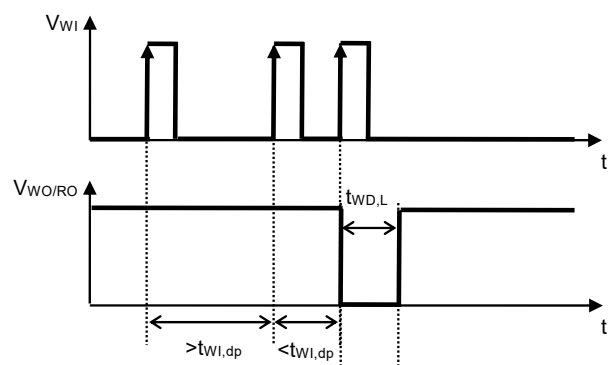

Figure 9 Watchdog Double-pulse Detection Time
*3. The time from when the watchdog timer initiates the detection of a trigger signal to when a trigger is detected again before $t_{WI,dp}$ elapses and the WO / RO pin output changes to "L" (Refer to **Figure 9**). This value changes according to C_{DLY} .